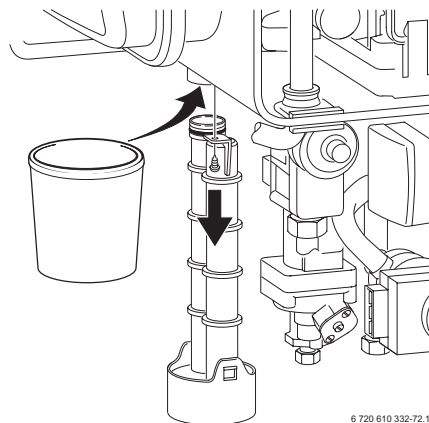

Fig. 46
- Unscrew condensation trap and place suitable container underneath. Refer to fig. 46.
In order to prevent spillage of condensate the condensation trap should be completely removed, (see page 39, fig. 46).